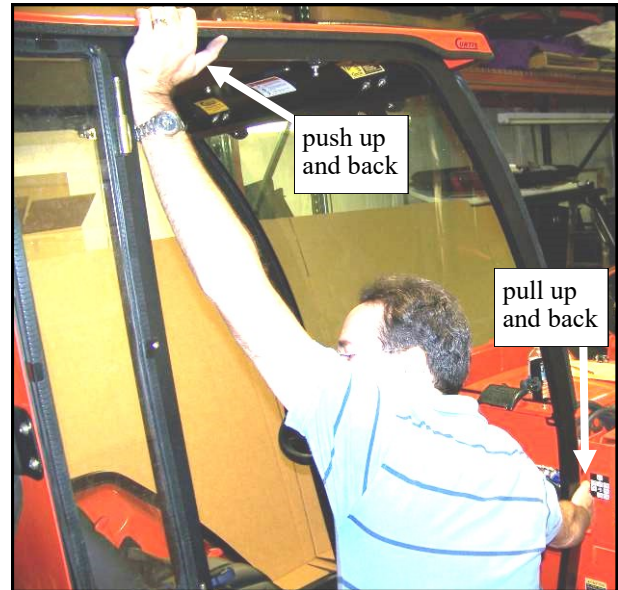
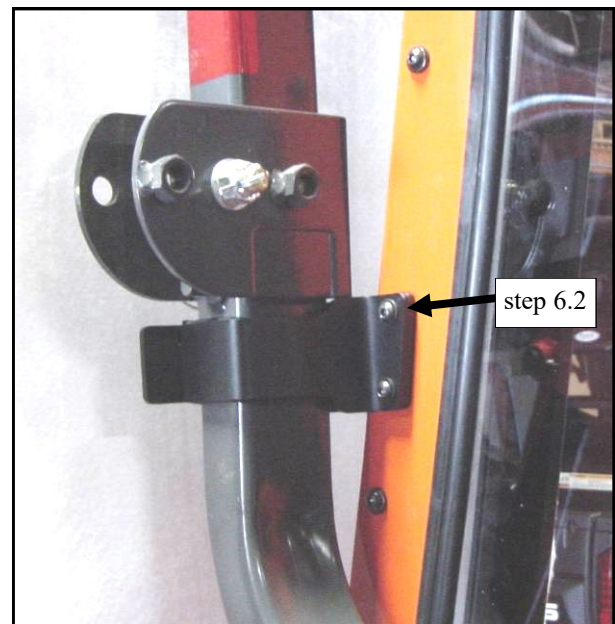

Fig. 6.1 (view of right side of tractor)
Fig. 6.1a (view of left side of tractor)
6.1 See page 17 for left versus right hand parts. If installing a soft sided cab, have an assistant lift up on the back of the side frames (see fig. 6.1) and pull the front back when installing the roll bar brackets. This will keep the cab from sagging towards the back and rotating forward which can create an interference with the loader mounting brackets. Per figure 6.1a, install the lower roll bar brackets using the following hardware per side of the tractor: two 5/16 x 1-1/4" long button head bolts, two steel washers, and two flange locknuts. The bolt heads should be towards the front of the vehicle (especially for soft rear curtain applications). Note: the photo shows a hard rear panel in place. A soft sided cab bolts up the same way but with one less thickness of sheet metal to sandwich. Do not tighten the bolts.